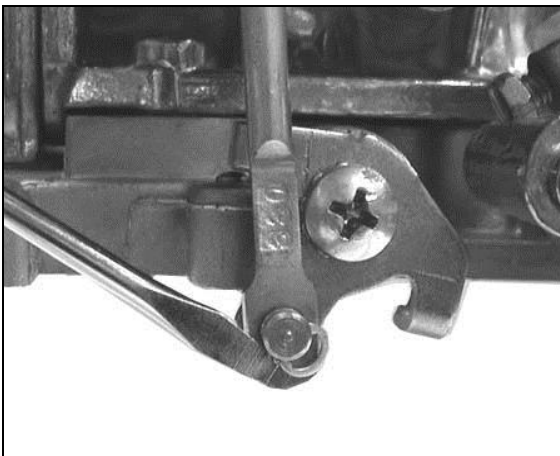

Figure 9
3. Remove the clip retaining the diaphragm plunger to the secondary throttle lever using a small flat-blade screwdriver (Fig. 9).